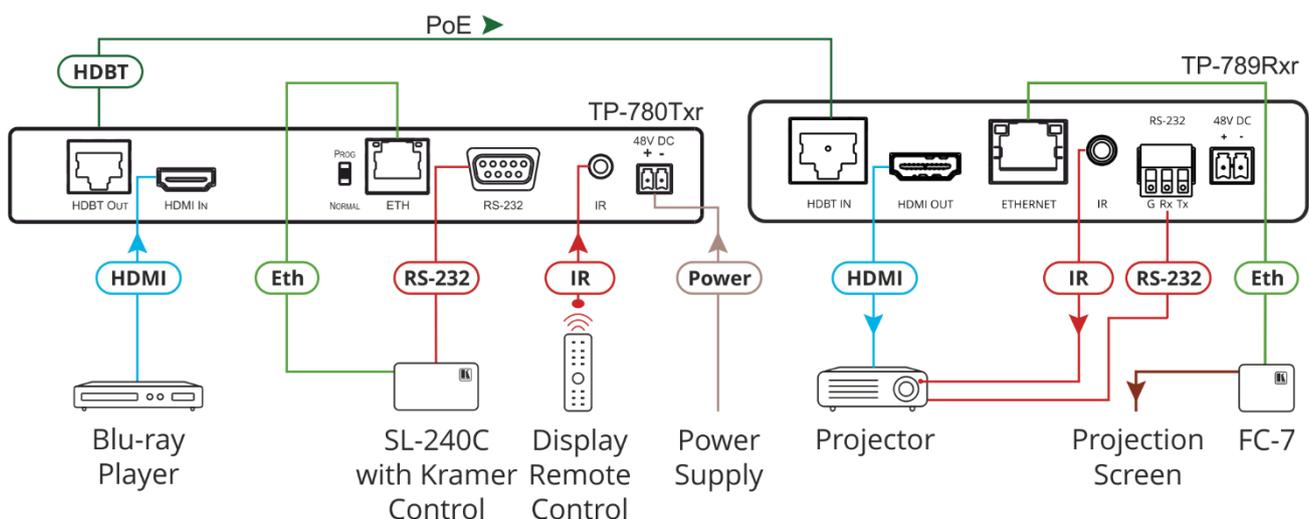

Figure 7: Connecting TP-789R/TP-789Rxr as PoE Acceptor
To connect the TP-789R/TP-789Rxr as illustrated in the example in Figure 7:
2. Connect the HDMI OUT Connector (22) on the **TP-789R/TP-789Rxr** rear panel to the HDMI acceptor (for example, a projector).
- a. Connect the RS-232 Terminal Block Connector (25) on the **TP-789R/TP-789Rxr** rear panel to the HDMI acceptor.
- b. Connect the IR 3.5mm Mini Jack Connector (24) on the **TP-789R/TP-789Rxr** rear panel to the HDMI acceptor via an IR emitter cable.
6. Connect the HDBT OUT RJ-45 Connector on the **TP-780Txr** rear panel to the HDBT IN RJ-45 Connector (21) on the **TP-789R/TP-789Rxr** rear panel.
7. Connect a LAN-enabled device (for example, **FC-7** control gateway) to the Ethernet Connector (23) on the **TP-789Rxr** rear panel.
8. Connect the power adapter to the 48V DC Power Terminal Block on **TP-780Txr** rear panel and to the mains electricity (not shown in Figure 7).